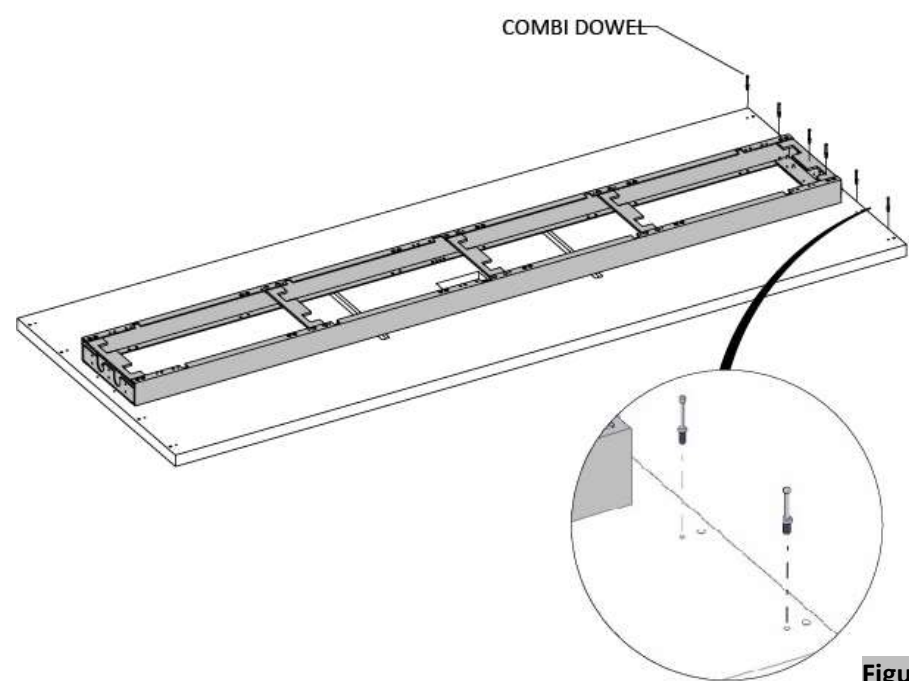

Figure 3
- 15. Attach the combi dowels by screwing them into the pre-bored holes, (Figure 3).